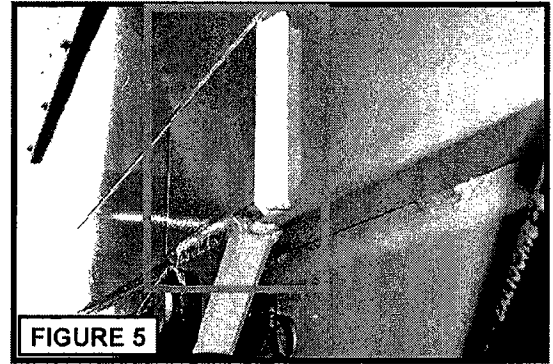

FIGURE 5
Step 5 (Figure 5) – Inspect all welds attaching the front upper cylinder mounting tab to the cylinder mount (front and rear of tab). Early production WITTKE units may have been built without a weld bead on the inner surface attaching the tab to the mount.